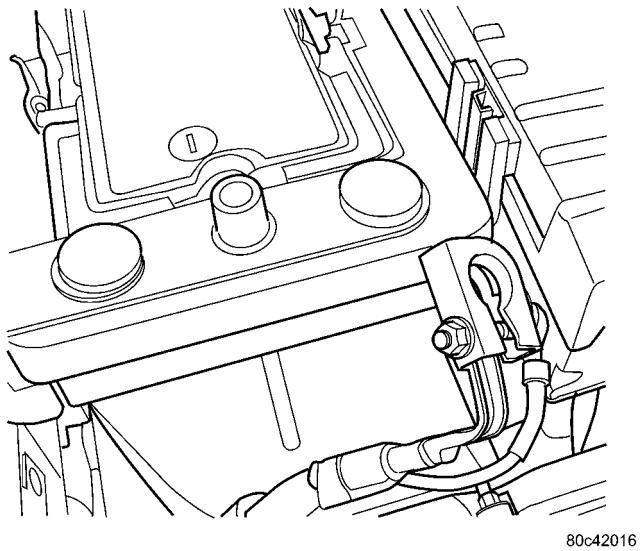

Fig. 1 BATTERY CONNECTION
(1) Disconnect the negative battery cable (Fig. 1).